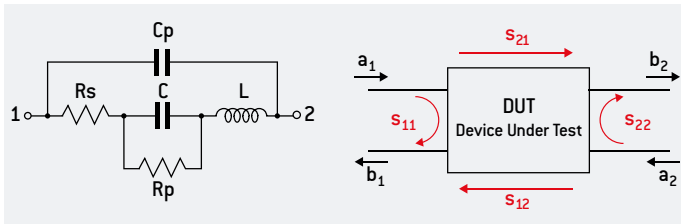
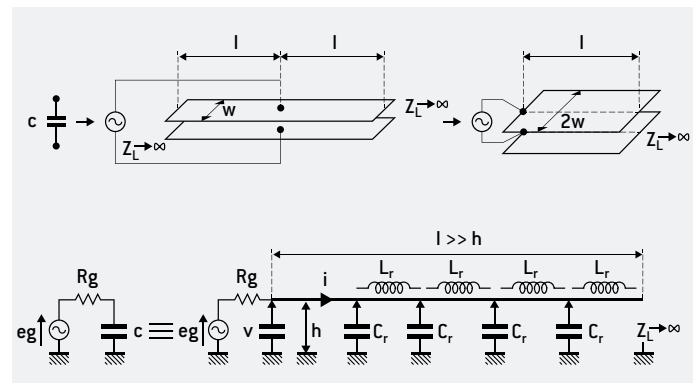
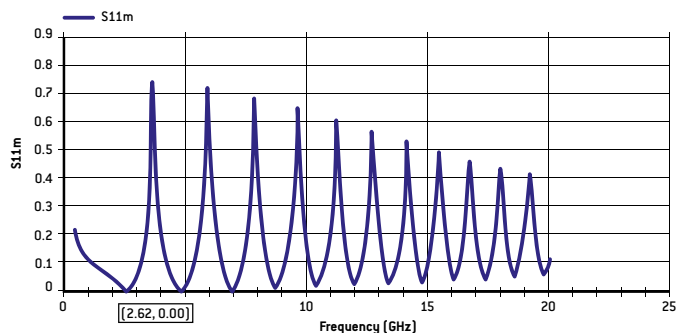
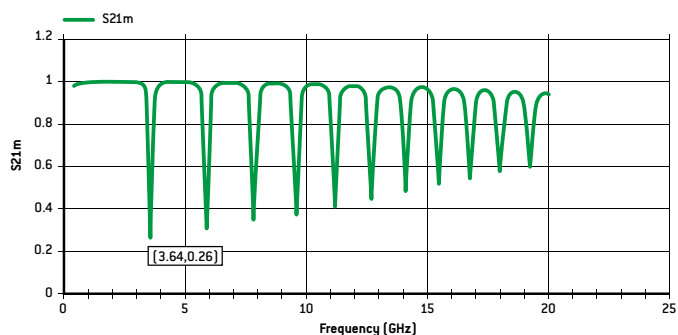

Figure 1: Equivalent Model
Figure 7: Transmission line model of a Single Layer Capacitor
Figure 4: S11curve for a 251SHF150 from EXXELIA ABC software
Figure 5: S21curve for a 251SHF150 from EXXELIA ABC software
The equivalent model for a capacitor is usually defined by the figure 1 where:
The variation of S11 (figure 4) and S21 (figure 5) show the different resonance frequencies SRF [serial resonance frequency] and PRF [parallel resonance frequency]
SRF=2.64 GHz and the ESR at this frequency is 0.200 ohm (figure 5)
- The PRF is associated with the parasitic capacitance Cp defined in figure 1. Assuming that Cp << C, then:
The PRF could be determined by the S21 measurements (figure 5)
The lumped model shown in Fig. 1 explains only the existence of one serial self-resonant frequency and one parallel self-resonant frequency, consequently, the lumped model is unable to explain why real measurements exhibits a double infinity of self-resonant frequencies (see figures 4, 5 & 6).
It is currently admitted [Ref.1] that the lumped model shown in Fig. 1 is convenient only for frequencies that are lower than roughly the half of the first SRF. For frequencies close or above the first SRF, it is mandatory to consider the distributed model or transmission line model [Ref.1].
This distributed model can be established more easily with the equivalent circuit of a Single Layer Capacitor (SLC) shown in Fig. 7:
After examination of Fig. 7, one can see that a Single Layer Capacitor can be modeled by a transmission line with an open termination that is currently called an "open stub".
Consequently, for predicting and understanding the behavior of a capacitor at frequencies that are close or above the first SRF, the lumped model (shown in Fig. 1) is not applicable and must be replaced by the distributed model or transmission line model (shown in Fig. 7).